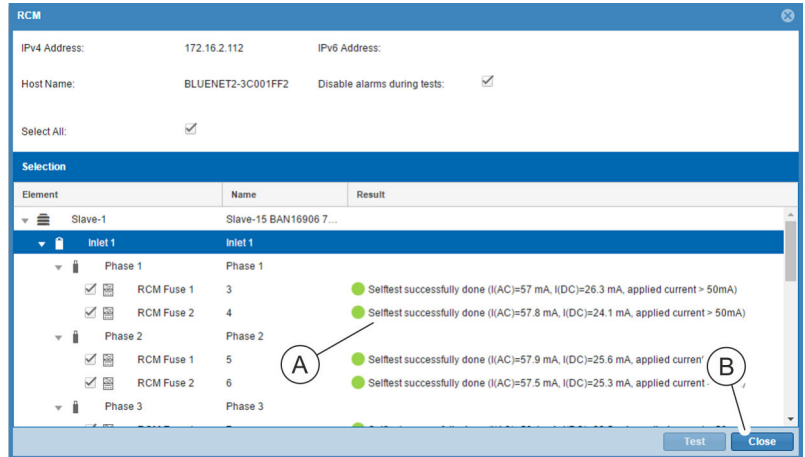

Fig. 108: “RCM” window
6. Check the results of the RCM self-test (Fig. 108/Ⓐ).
7. Exit the “RCM” window by clicking the “Close” button (Fig. 108/Ⓑ).